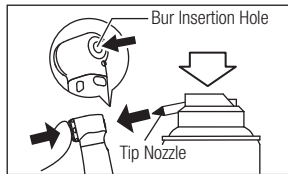

Fig. 18
- 2) Lubricate the chuck directly where the bur is inserted (Fig. 18).